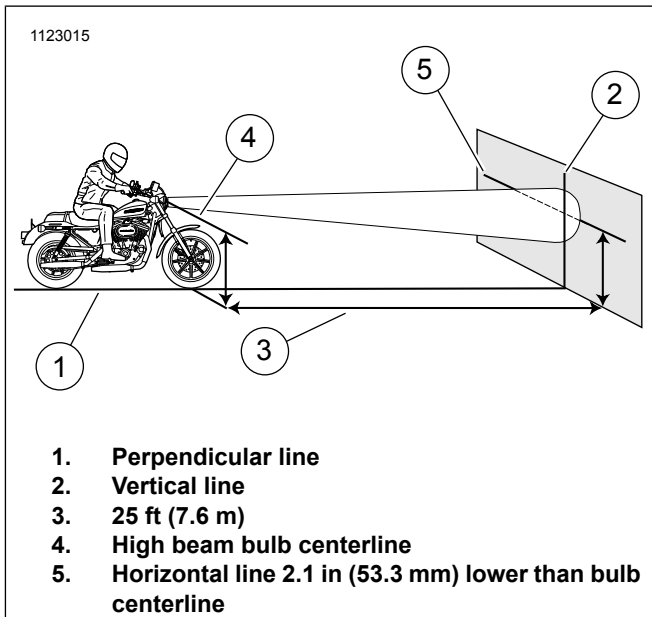

Figure 68. Headlamp Alignment: Sportster Models
4. See Figure 68. Park the motorcycle on a perpendicular line (1) with the front axle 25 ft (7.6 m) (3) from a wall.
5. Draw a vertical line (2) on the wall.